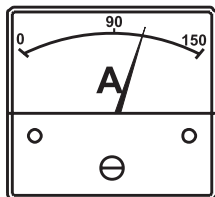

Figure 58. Ammeter (Load)
13. Observe the generator's ammeter (Figure 58) and verify it reads the anticipated amount of current with respect to the load. The ammeter will only display a current reading if a load is in use.